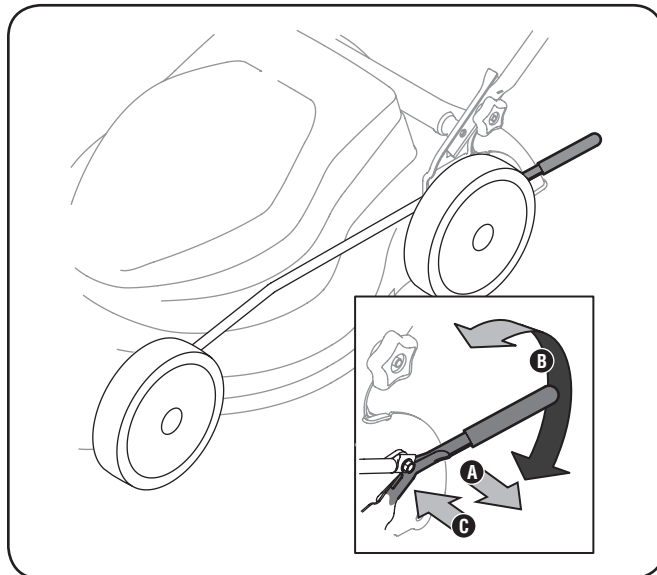

Figure 3-7
1. The cutting height adjustment lever is located above the rear left wheel. See Fig. 3-7.